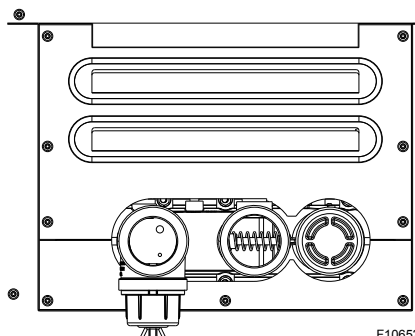

Figure 30. Access Panels
1. Remove right and left side access panels. See **Figure 30**.